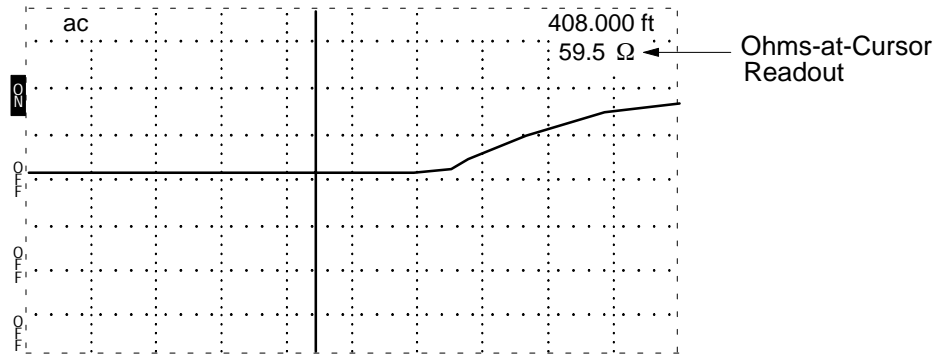

Figure 2-10: Ohms-at-Cursor
6. Turn the $\langle \triangleright \rangle$ POSITION control to set the cursor near the end of the cable as illustrated (see Figure 2-10).